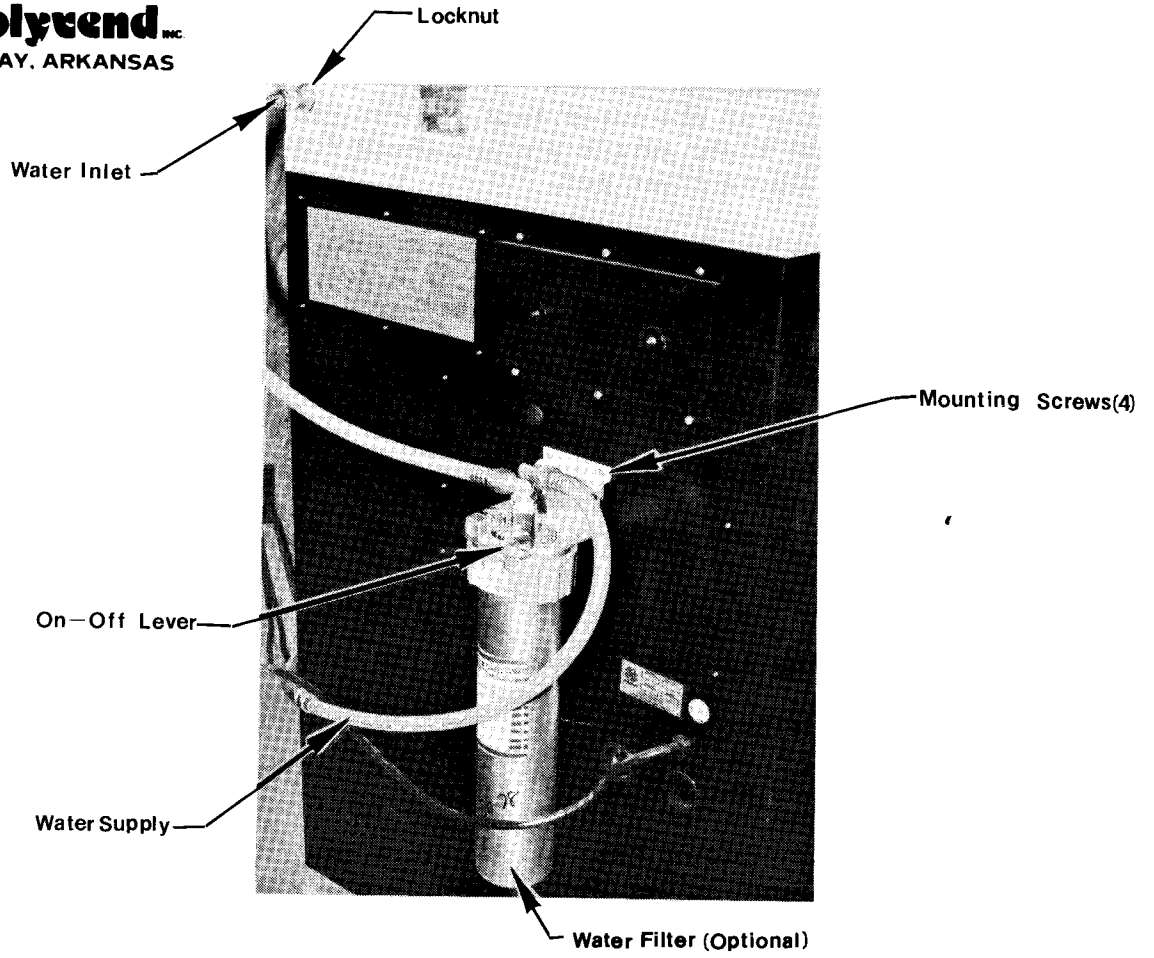

Fig. 1
- Locate inlet hose in upper compartment. Remove locknut from bulkhead fitting and insert bulkhead fitting through hole in the back of the cabinet. Thread nut on the fitting and tighten (See FIG. 1).
- If optional water filter is used, (SEE FIGURE 1)
- Remove valve cover by removing (1) screw on top, then lift cover up and pull forward.